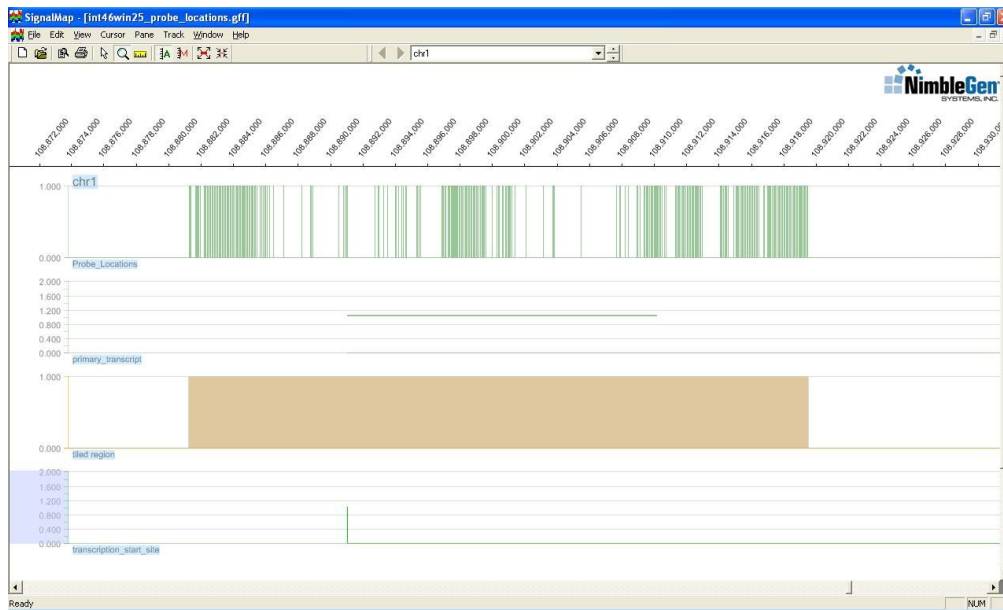

Figure 1: Example Microarray Design File Displayed in the SignalMap Window
3. Select **File** -> **New** and import the two GFF files. Figure 1 is an example microarray design file displayed in the SignalMap window.